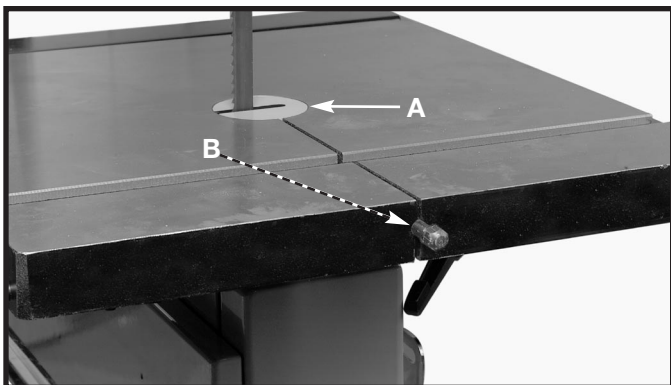
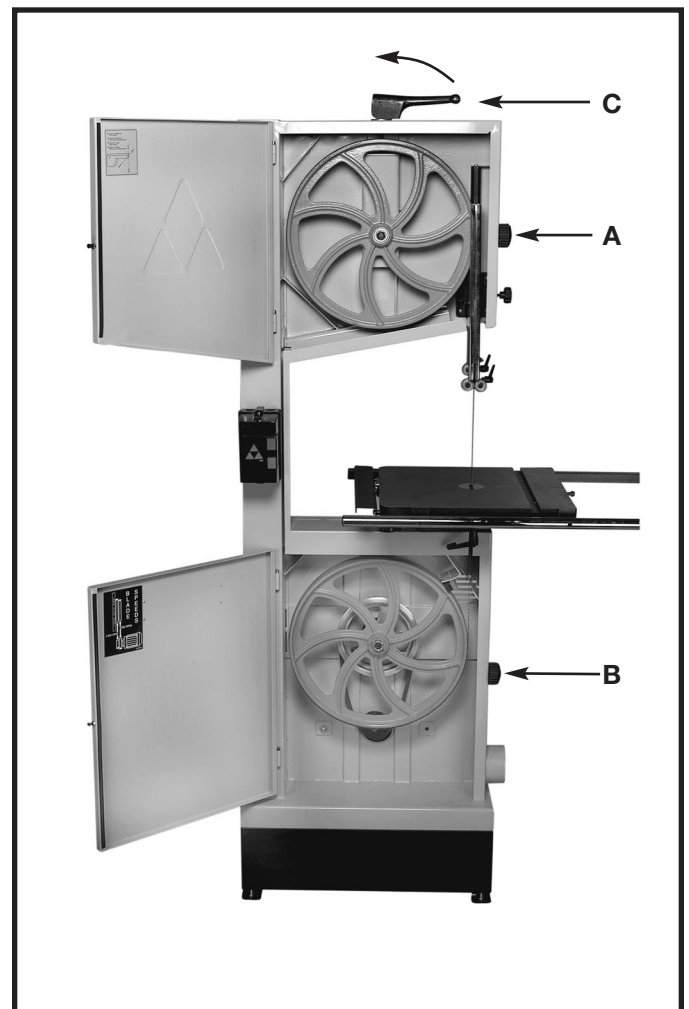

Fig. 27
Fig. 26
1. Turn the knobs (A and B) Fig. 26 clockwise to open both the upper and lower doors.
2. Move the Tension Lever (C) to the up position.
3. Remove the table insert (A) Fig. 27 and the table pin (B).